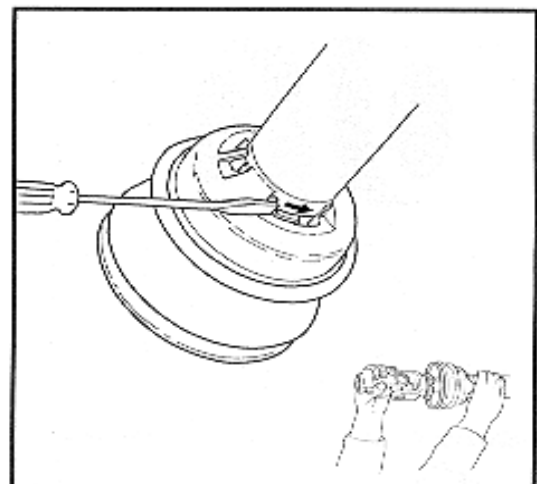

Figure 13-3: Turn Bearing
3. Turn the bearing in the direction as indicated in Figure 13-3. Then, slide guard off the bearing.